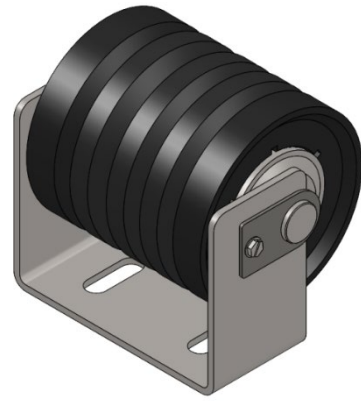

FIGURE 14
3. The lift rolls on the leading edge of the Impact system have slots in the mounting bracket. You will want to adjust these such that the top edge of the lift roll is $\frac{1}{4}$ to $\frac{1}{2}$ inch higher than the rails. These rolls are rubber discs, and will compress under load. The purpose of these rolls is to lift the belt up over the rail, to prevent excessive wear on the leading or trailing edge of the rails. Figure 14 shows a Lift Roll and Bracket.